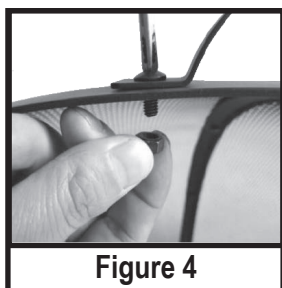

Figure 4
Install one Handle (E) onto each screen by hand-tightening M6x12mm Bolt Sets (D). [Figure 4]